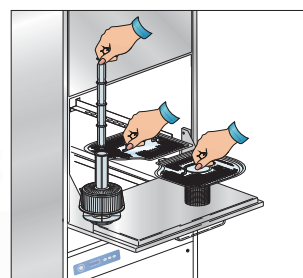

Fig. 1
1. Check if the pump suction filter is properly inserted in its seat on the wash-tank bottom (Fig.1). This filter must be cleaned every 20 wash cycles or whenever necessary. **\*Do not use the appliance without the filters.** Put the surface filters in place (Fig.1), shut the dishwasher door, turn the water valve *open* and turn the main power switch *on*. Insert the green rinse aid dispenser tube in the rinse aid container and the clear line into the detergent bottle (if fitted).